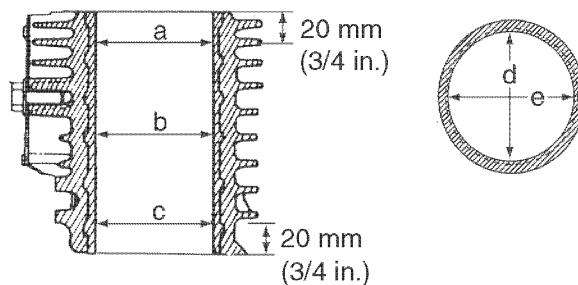

Figure 6-66
- Take measurements at three places (**Figure 6-66, (a, b, c)**) and in two directions (**Figure 6-66, (d, e)**) in each cylinder. See *Cylinder Block on page 6-15* for the service limit. Record the measurements.